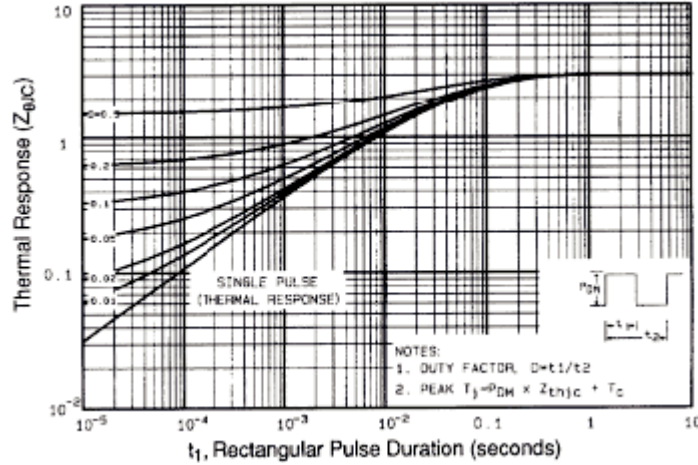

Fig. 12 - Maximum Effective Transient Thermal Impedance, Junction-to-Case
- a. Repetitive rating; pulse width limited by maximum junction temperature (see fig. 12).
a. Repetitive rating; pulse width limited by maximum junction temperature (see fig. 12).